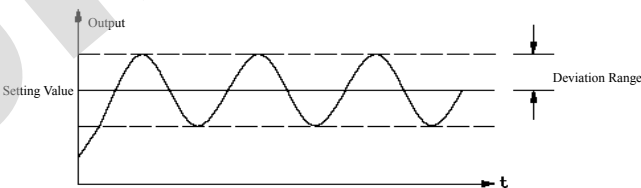

Fig 5-11 Deviation Range Allowed
- It refers to the percentage of the deviation (between feedback of PI regulation and setting value) against close-loop given value. Deviation range allowed by PI regulation is shown in Fig 5-11.